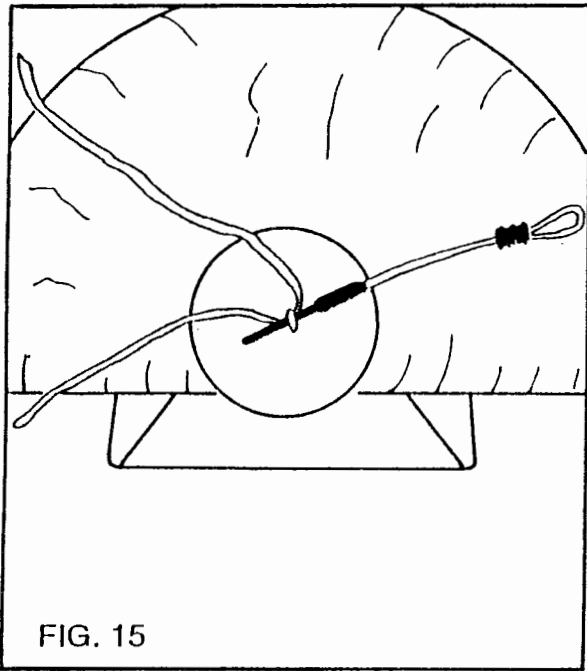

FIG. 15
10) Fold the lower edge of the pilot chute up under the top plate, forming a straight line as shown in FIG. 15.